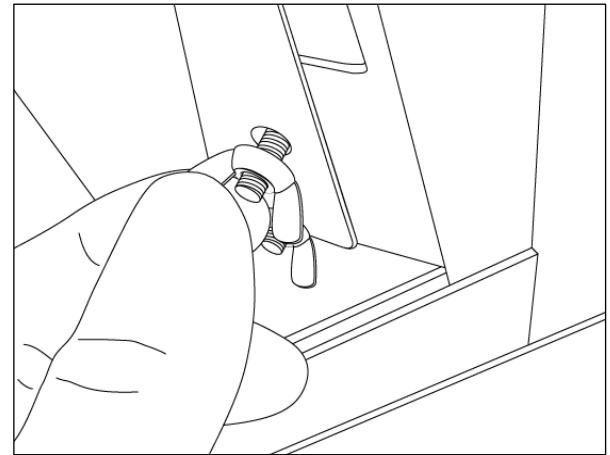

Figure 6-3
4. Remove the two wing nuts on the halogen light bulb support bracket in order to access the light bulb (Figure 6-3).